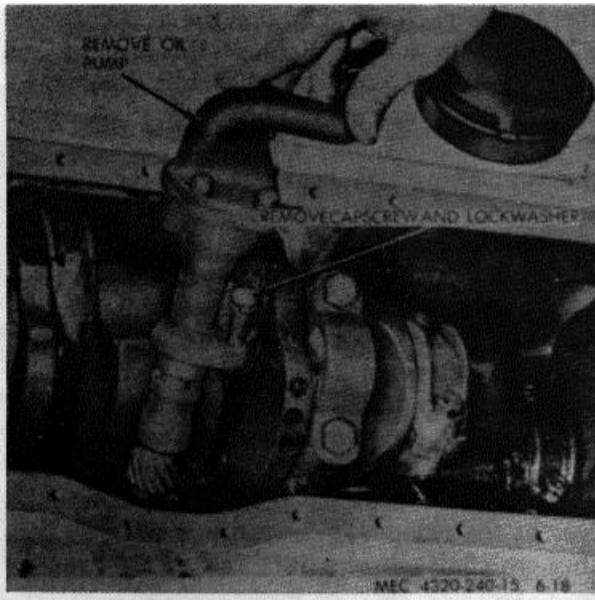

Figure 6-18. Oil pump removal and installation.
(1) Refer to paragraph 6-14b and remove the oil pan.
(2) Refer to figure 6-18 and remove the oil pump.
(1) Refer to figure 6-18 and install the oil pump.
(2) Refer to paragraph 6-14b and install oil pan on engine and engine in pumping unit in reverse order of removal.